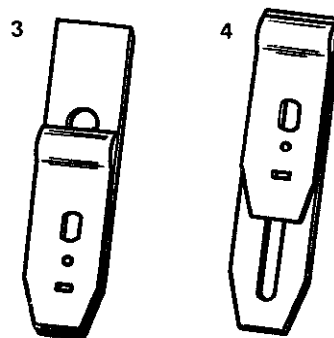

Fig. 8-16 Assembling the double plane iron (steps 3 and 4).
3. Turn it so that it lines up with the edges of the plane iron, step 3, figure 8-16.
4. Advance the plane iron cap until the edge is just back of the cutting edge of the plane iron as shown in step 4, figure 8-16. Do not drag the plane iron cap across the cutting edge or the blade can become dulled.